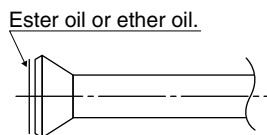

Fig. 7
- Apply ester oil or ether oil inside the flare portions before connecting. (Refer to Fig. 7)
- When connecting the flare nut, coat the flare section inside with ester oil or ether oil, rotate three or four times first, then screw in. (Refer to Fig. 7)